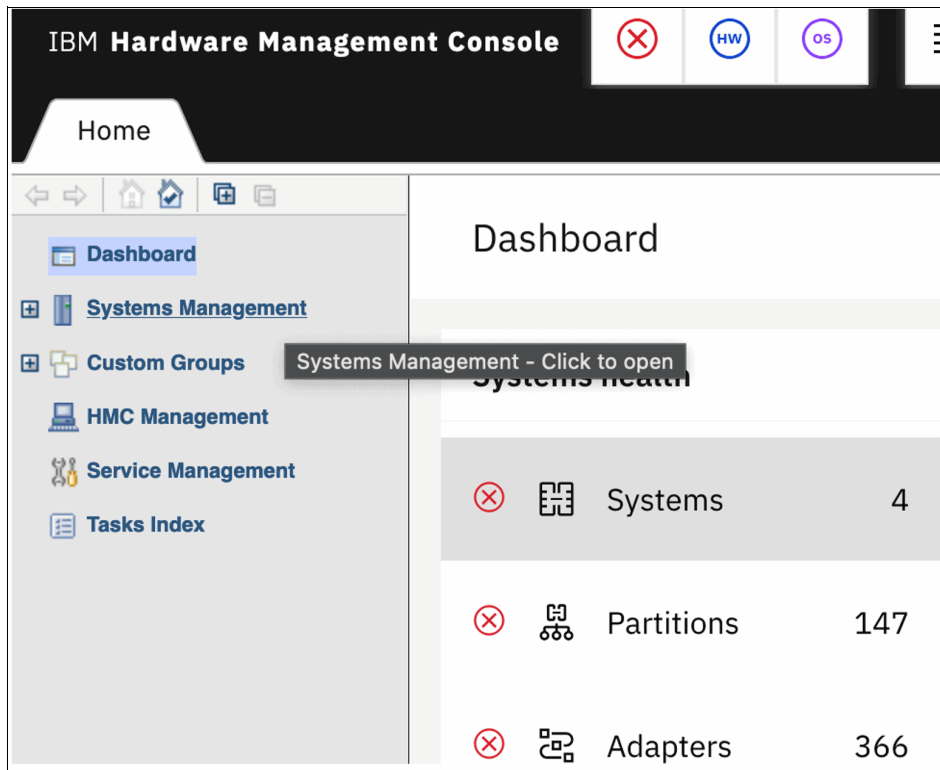

Figure 26 Hardware Management Console
1. Log on to the HMC (Figure 26 on page 20).